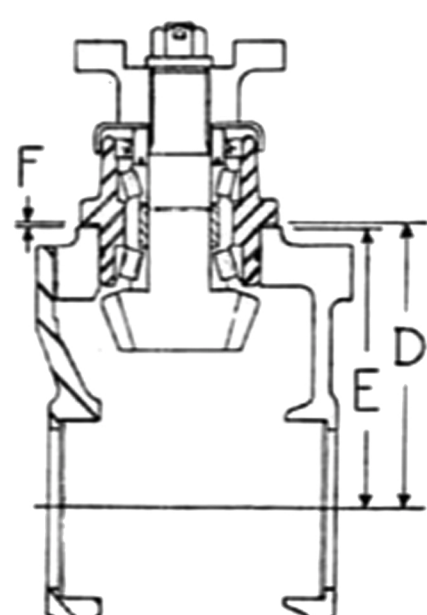

Fig. 16—To determine thickness of shim pack (F), subtract dimension (E) from dimension (D). Refer to text.
Step D. To determine the bearing housing mounting distance (D-Fig. 16), add actual pinion mounting distance (Step A) to measured bearing housing height (Step B). Then, subtract actual pinion tooth length (Step C).
Step F. To determine the shim pack thickness (F-Fig. 16) required for correct installation of bevel drive pinion, subtract dimension (E) from dimension (D).